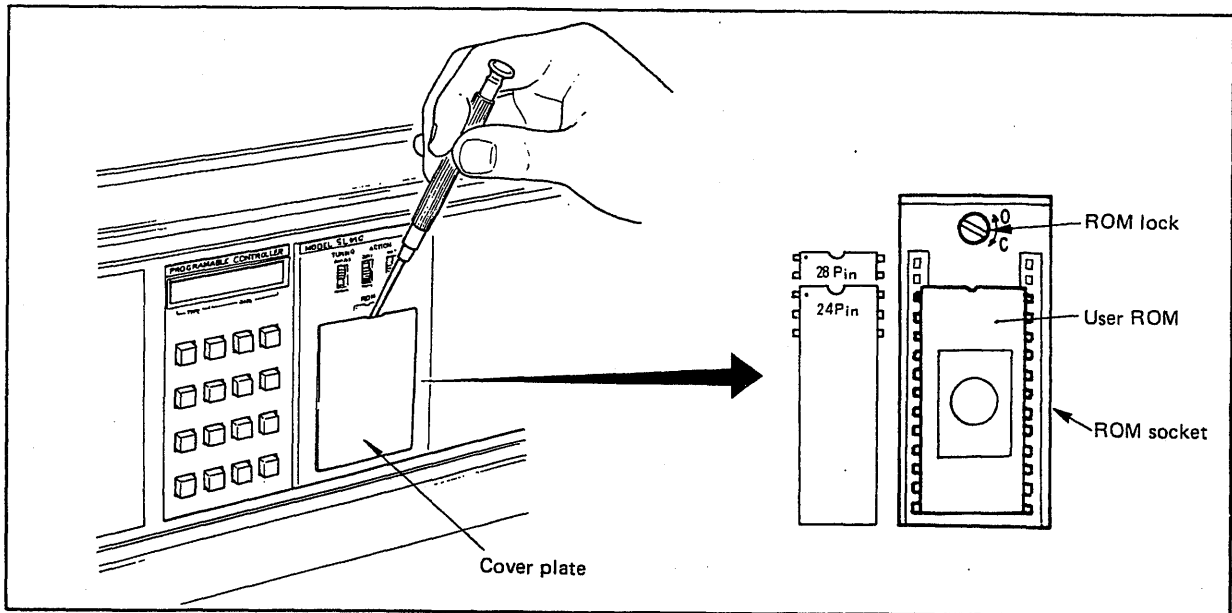

Figure 6-3-7. Removing Tuning Panel Cover Plate and ROM.
- (1) Removing user ROM.
- b) Remove the tuning panel cover plate; the user ROM will be visible (Figure 6-3-7).
(2) Installing user ROM.
- c) Make sure that the ROM pins are correctly aligned with their sockets. When the 24-pin ROM is installed, connect it below the four-pin socket (two pins on each side) on top of the socket (see Figure 6-3-7).